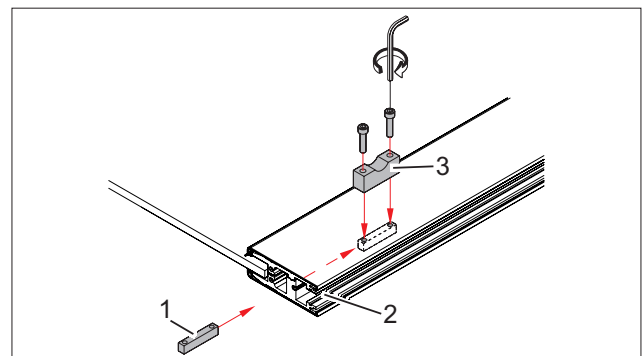

Fig. 12 Screwing the adapter
1. Insert the feed piece (Fig. 12/1) into the door rail (Fig. 12/2) and align them on the thread holes.
2. Screw the adapter (Fig. 12/3) with the door rail (Fig. 12/2) and with the feed piece.